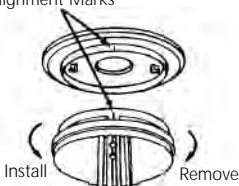

FIGURE 7
6. If you have finished all the WIRING, BATTERY INSTALLATION AND TRIM RING MOUNTING STEPS, you can install the alarm on the trim ring. Alignment marks are provided on the side of the alarm and on the trim ring (see Figure 7).
7. Install the alarm on the trim ring with the indicating marks aligned and rotate the alarm in the direction of the "ON" arrow on the cover until the alarm snaps in place (see Figure 7).